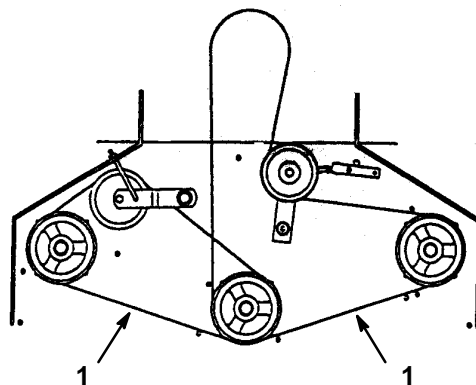

Figure 44
3. Remove mower belt (Fig. 44).
7. Install the mower belt (Fig. 44).
3. Loosen locknut and turnbuckle on idler arm. Remove worn belt (Fig. 44).
4. Install new belt and adjust belt tension, loosen the 5/16" locknut on turnbuckle and rotate the turnbuckle toward the rear of mower to tighten or toward the front of mower to loosen belt tension (Fig. 44).